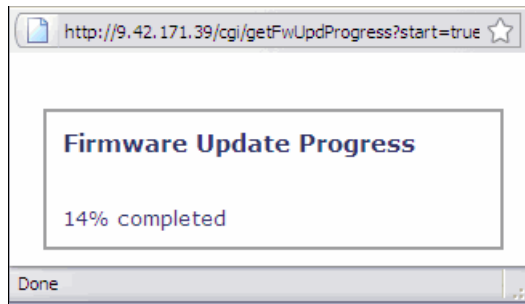

Figure 19-6 SAS Connectivity Module - installation confirmation
3. A firmware update progress window opens, as shown in Figure 19-6.